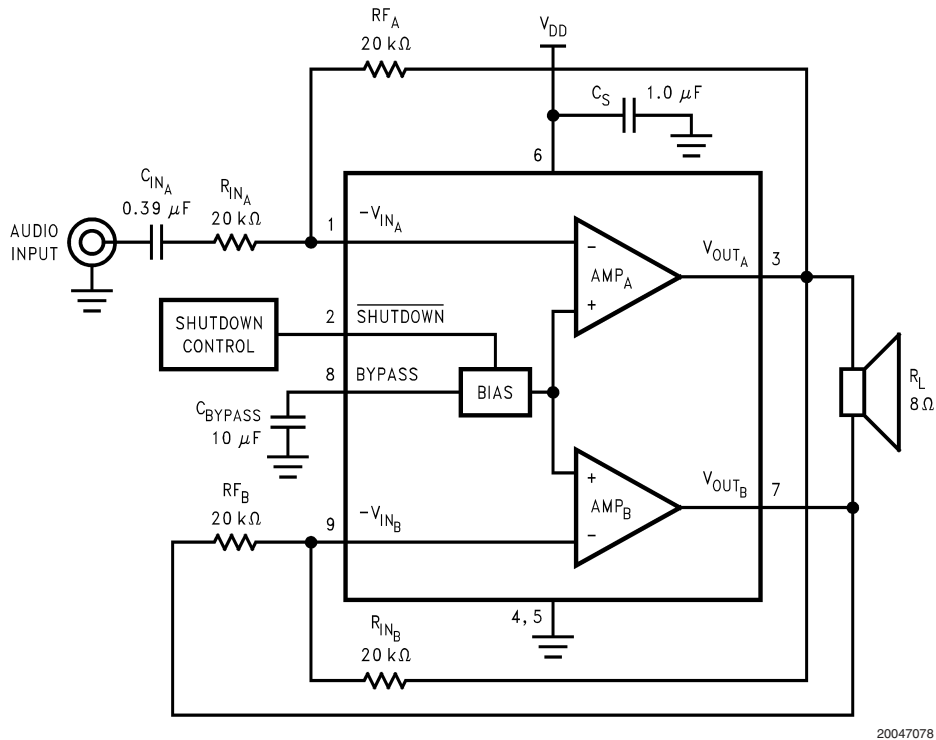

FIGURE 3. Typical LM4950 BTL Application Circuit
As shown in Figure 3, the LM4950 consists of two operational amplifiers that drive a speaker connected between their outputs. The value of external input and feedback resistors determine the gain of each amplifier. Resistors R_{IN_A} and R_{F_A} set the closed-loop gain of AMP_A , whereas two 20kΩ resistors set AMP_B 's gain to -1. The LM4950 drives a load, such as a speaker, connected between the two amplifier outputs, V_{OUT_A} and V_{OUT_B} . Figure 3 shows that AMP_A 's output serves as AMP_B 's input. This results in both amplifiers producing signals identical in magnitude, but 180° out of phase. Taking advantage of this phase difference, a load is placed between AMP_A and AMP_B and driven differentially (commonly referred to as "bridge mode"). This results in a differential, or BTL, gain of
As shown in Figure 3, the input resistor (R_{IN}) and the input capacitor (C_{IN}) produce a high pass filter cutoff frequency that is found using Equation (7).
As an example when using a speaker with a low frequency limit of 50Hz, C_i , using Equation (7) is 0.159 μ F. The 0.39 μ F C_{INA} shown in Figure 3 allows the LM4950 to drive high efficiency, full range speaker whose response extends below 30Hz.